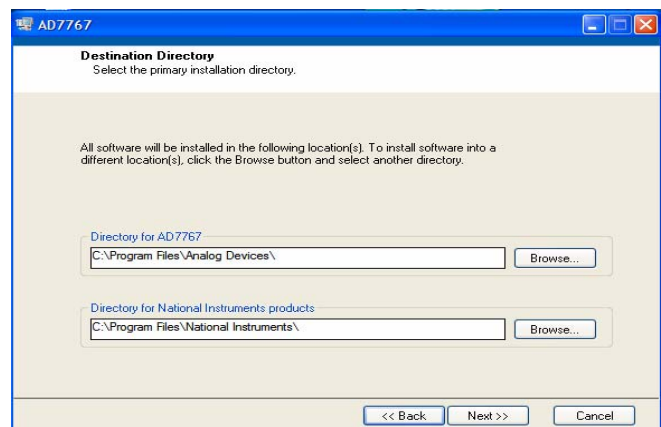

Figure 3 AD7766/-1/-2 Evaluation software install 2.
- 2) The destination directory can be chosen using the default clicking "Next" as shown in Figure 3.